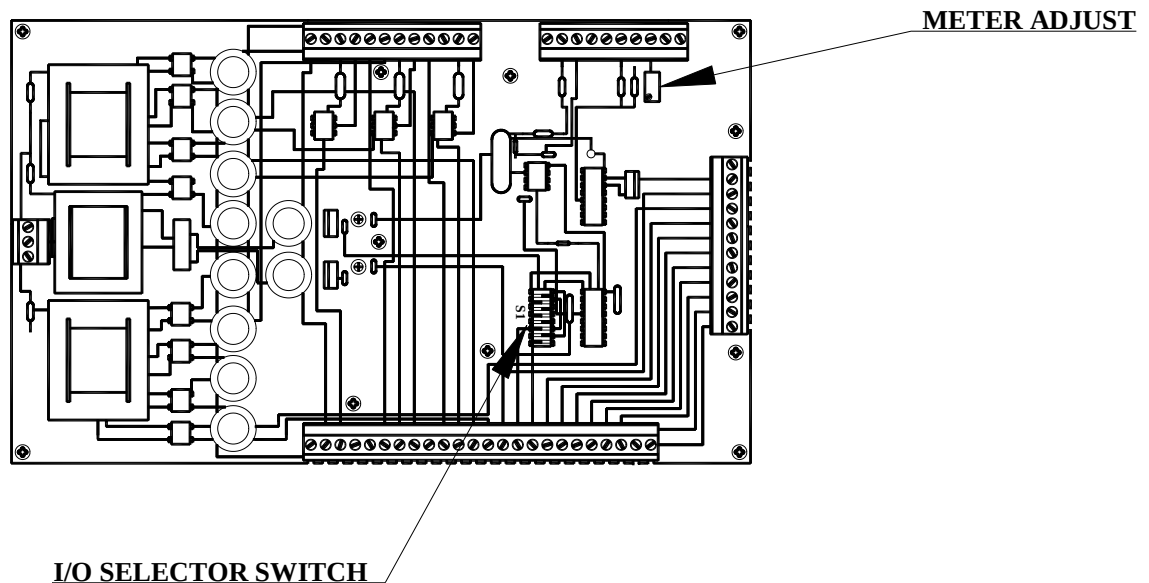

Figure 3.8-3 Remote Probe Controller Electronics
- E) Check the front panel O₂ meter and adjust the meter, adjust potentiometer R2 on the interface board, if necessary, to the correct meter reading (please see Figure 3.8-3, below). Use the following formula to calculate the correct meter reading: